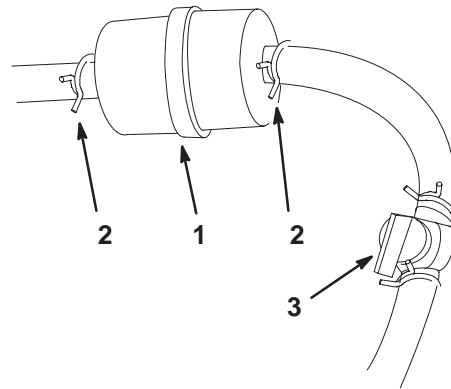

Figure 41
4. Close the fuel shut-off valve (Fig. 41).
5. Squeeze the ends of the hose clamps together and slide them away from the filter (Fig. 41).
9. Open fuel shut-off valve (Fig. 41).